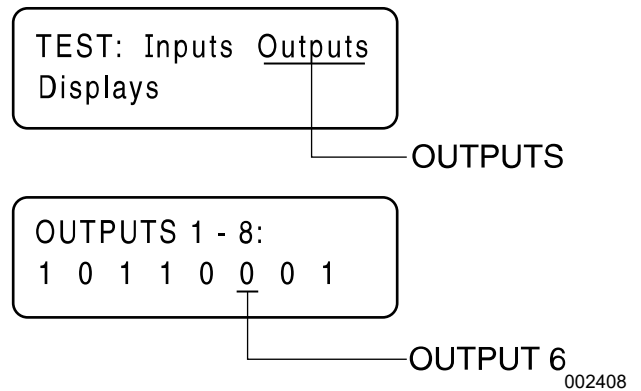

Figure 4-47. The Output Screens
- a. See **Figure 4-47**. Digital Output 6 is Wire 56 output from the board.